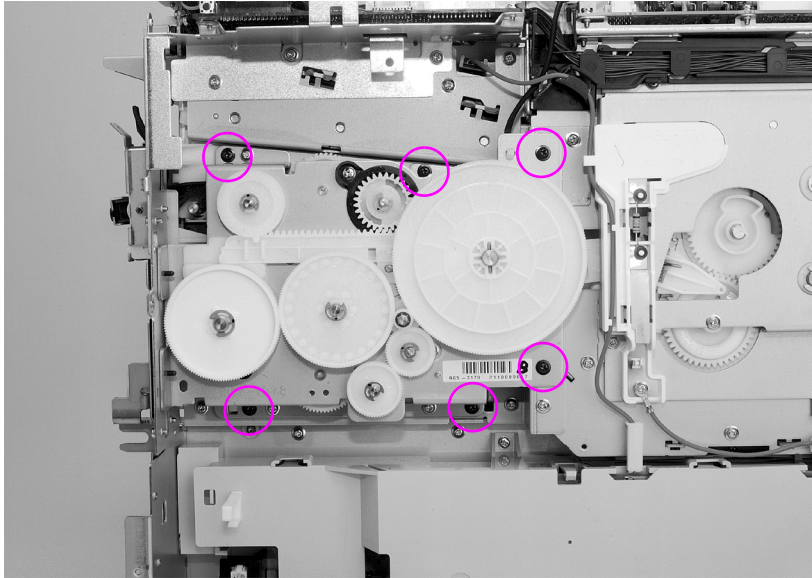

Figure 6-35 Drum drive assembly removal and replacement (2 of 3)
- 8 Remove the eight black screws from the drum drive assembly shown in Figures 6-35 and 6-36.